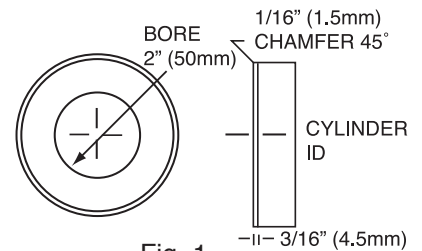

Fig. 1
1. To avoid hitting main bearing webs and damaging stones, place a soft steel or aluminum washer in the bottom of each cylinder before honing (see Fig. 1) or use the Goodson Hone Stop (HS-150-1/2 or HS-150-5/8 attached to the hone drive.